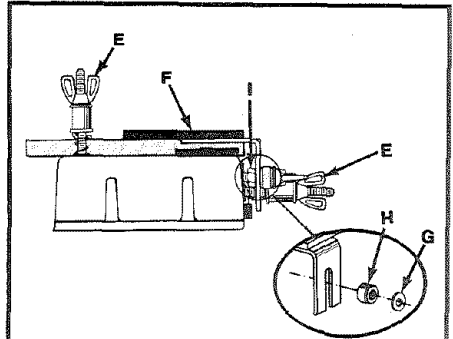

Fig. 22
7. Loosen template wing nuts (E) and remove comb-shaped template (F). **DO NOT REMOVE BOARD (A).**
8. Loosen wing nuts (E) on top clamping bar and remove scrap piece of wood.
9. Replace the scrap piece of wood with the piece that is to be your finished front board (B).
10. Place it flush with the edge of board (A), and tighten wing nuts (E) on top clamping bar firmly.
11. Loosen wing nuts (E) on front clamping bar and remove board (A).
12. Attach comb-shaped template (F) to the dovetail base with spacers (G) and (H) in their desired location. See Figure 22. Hold the template flat on the boards with one hand and tighten wing nuts (E) securely.